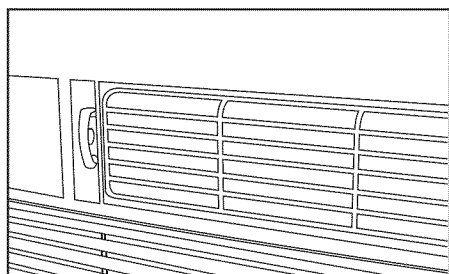

Fig. 1 (VENT CLOSED)
- Recirculate inside air - Vent Closed (see Fig. 1)